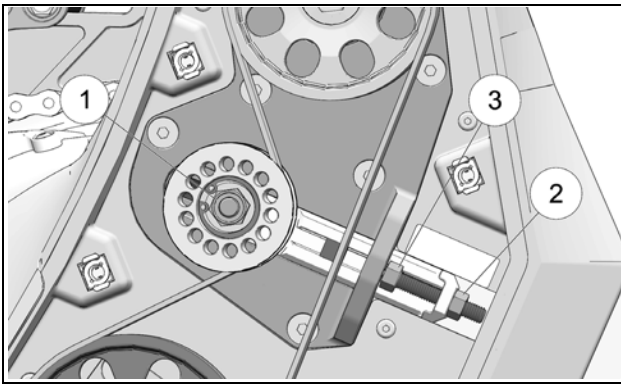

Figure 42
- Loosen tensioner pulley nut (1) $\frac{1}{2}$ to $\frac{3}{4}$ turn. See Figure 42.
- Loosen lock nut (2) on Belt Tensioner adjusting bolt. See Figure 42.
- Tighten tensioner pulley nut (1) back to 55 Nm (38 lb-ft) of torque. See Figure 42.
- Tighten the two rear wheel axle nuts (1) back to 55 Nm (38 lb-ft) of torque. Figure 42